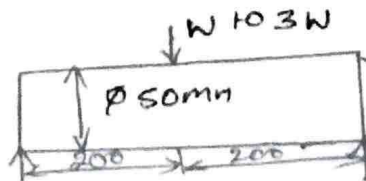

Fig. Q3 (c)
c. Determine the maximum load for the simply supported beam, cyclically loaded as shown in Fig. Q3 (c). The ultimate strength is 700 MPa, the yield point in tension is 520 MPa and the endurance limit in reversed bending is 320 MPa. Use a factor of safety of 1.25. The load, size and surface correction factors are 1, 0.75 and 0.9 respectively.